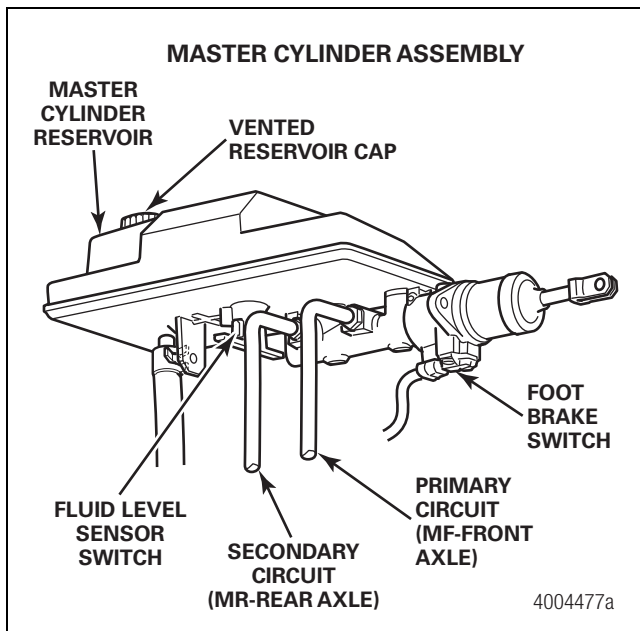

Figure 4.43
7. Connect the foot brake switch on the master cylinder and the fluid level sensor switch under the reservoir. Figure 4.43.